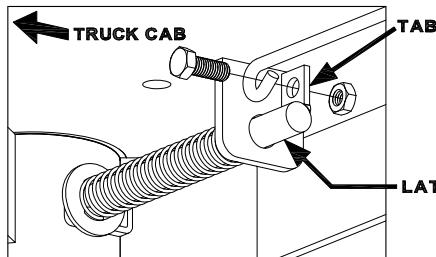

FIGURE F2: Handle installation
2. Attach the handle to the latch pin as shown with the handle on the "cab side" of the square tab welded to the pin. The head of the bolt must be on the handle side, and the lock nut must be on the tab side. The tab is welded to the pin in an offset position so that the handle will be lined up over the center of the pin, See Figure F2 and F3.